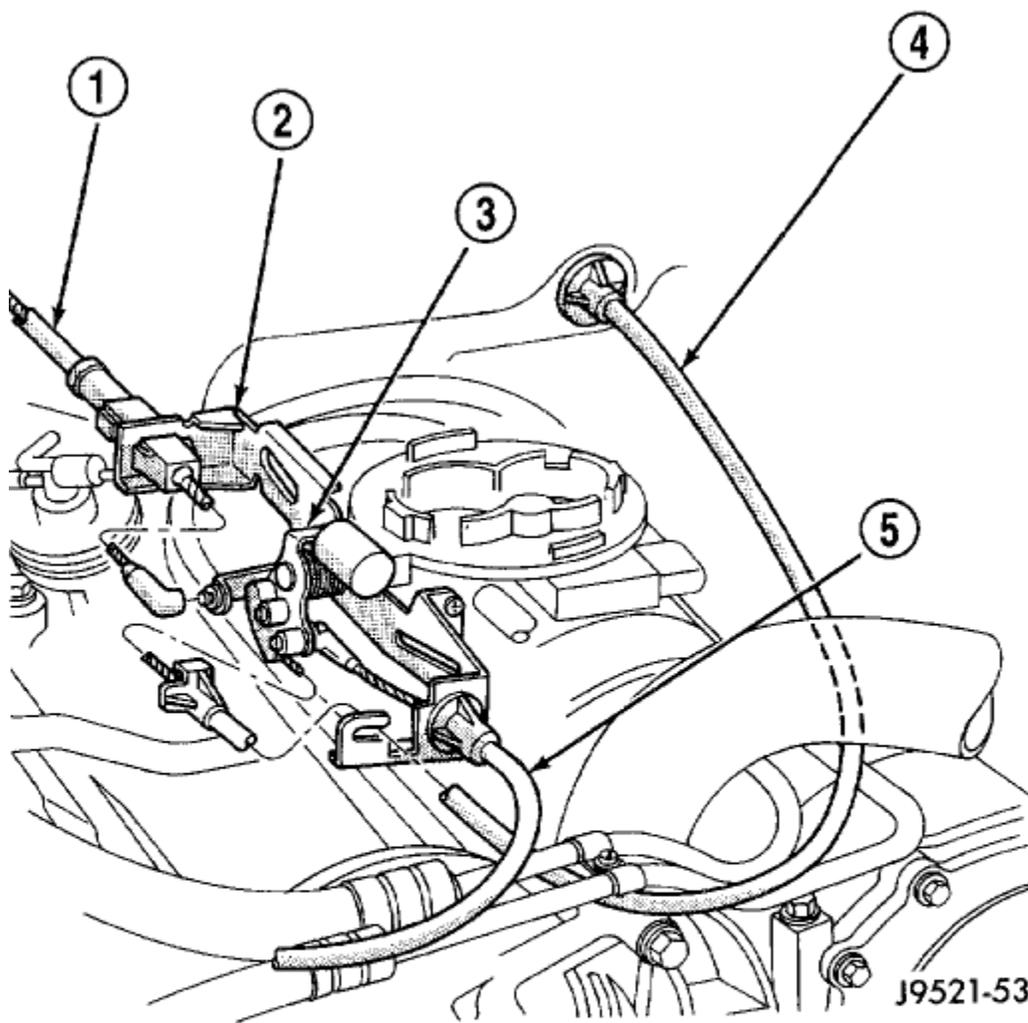

Fig. 311 Throttle Valve Cable Attachment —At Engine
3. Slide cable off attachment stud on throttle body lever (Fig. 311).